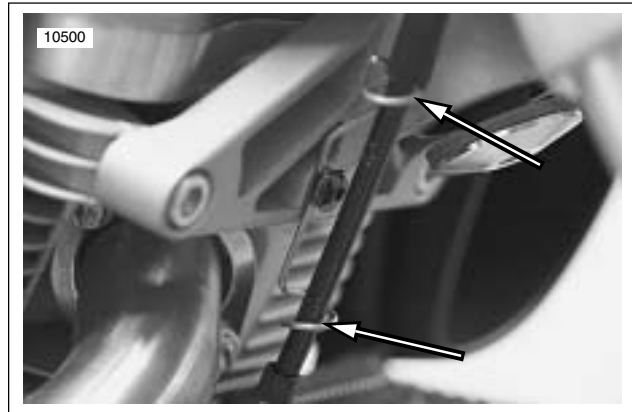

Figure 2-94. Clutch Cable Wire Form
1. See Figure 2-94. Remove wire form from front isolator.